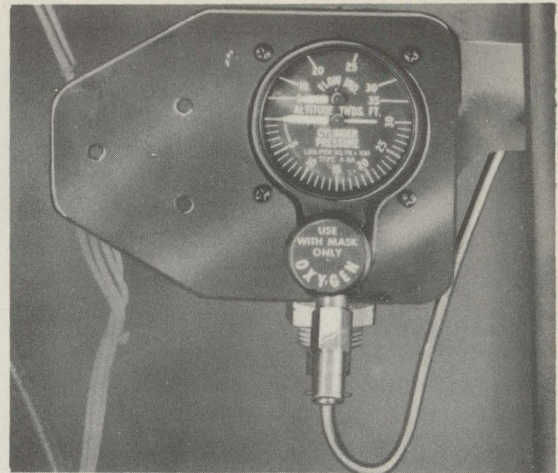

FIG. 25—PRESSURE GAGE, REGULATOR AND FLOW INDICATOR
(1) REGULATORS AND FLOW INDICATORS (See figure 25.)—Regulators of the type A-8 series are intended to be used with masks of the A-8 series only. The A-8 series regulators have been developed for use in high altitude flying and deliver the proper mixture of air and oxygen to sustain life in the stratosphere. These regulators provide enough oxygen at 30,000 feet for people at rest or for those doing light work, such as the pilot does. But the flow is insufficient for heavy work, such as is required of a gunner engaged in swinging a gun in combat. The regulator contains two pointers which indicate over separate scales on the dial. The pressure condition in the supply cylinder is shown on the lower scale and